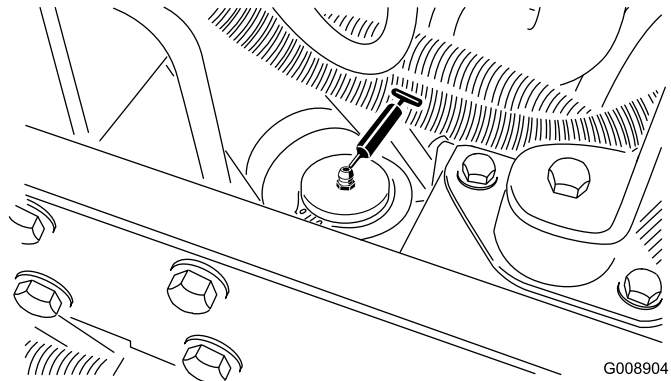

Figure 60
- Steering cylinder (Figure 60).